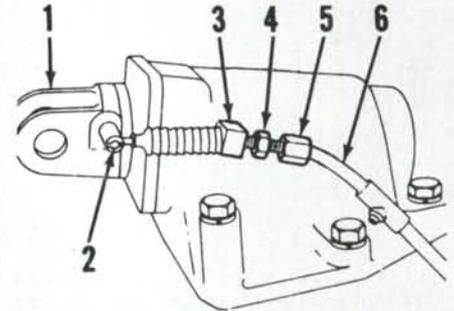

Fig. 250—View of sensing cable and its adjustment points.
**318. DRAFT SENSING CABLE.** Remove upper link from draft sensing unit. Install weights on lower links only. Move selector dial to DRAFT control setting. Turn jam nut (4—Fig. 250) clockwise and adjuster (5) counterclockwise until inner cable is free at bracket (2). Move linkage control lever rearward until SELECT position spring tension is felt. Start engine and allow lift linkage to raise to its highest position, then stop engine. Turn cable adjuster clockwise until linkage just starts to lower. Then turn cable adjuster counterclockwise 5 1/4 revolutions, hold adjuster in this position and tighten jam nut against bracket (3) to secure adjustment.